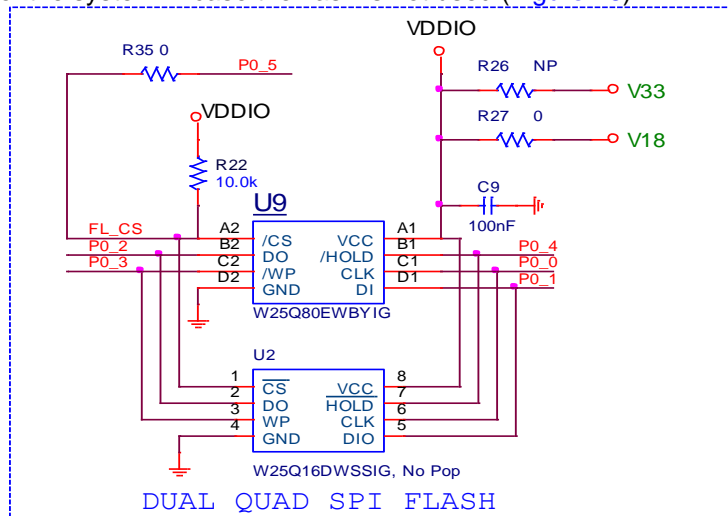
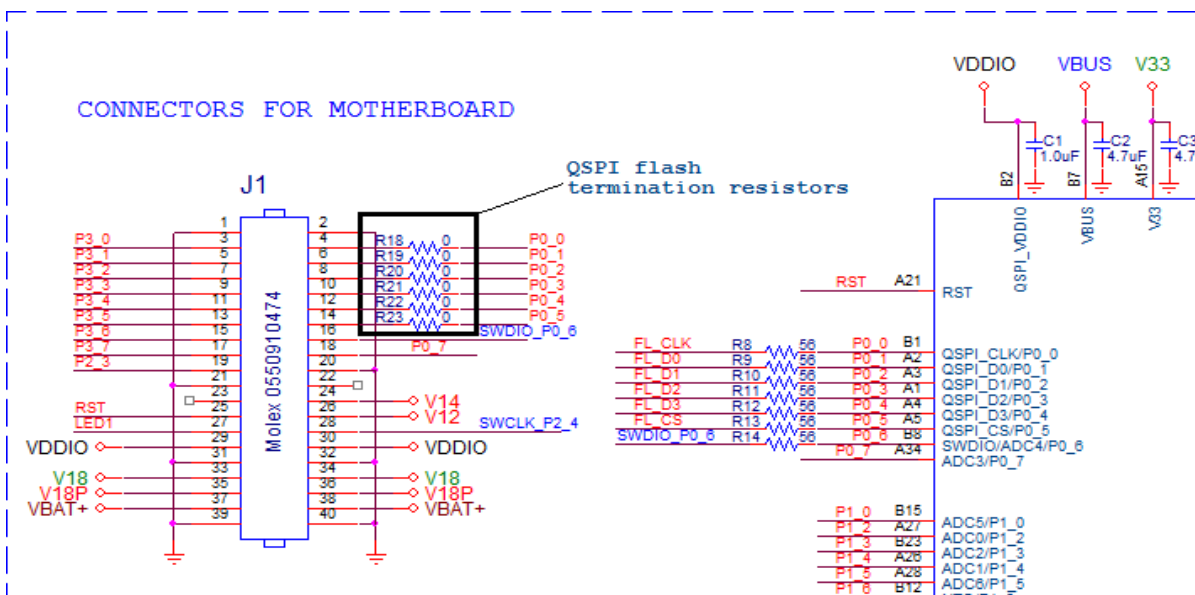

Figure 25: QSPI Data Flash V33 or V18 Selectable Power Supply
Figure 26: QSPI Data Flash 0 Ohms termination resistors
The daughterboard is also equipped with an external QSPI data flash from Winbond. The W25Q80EW flash supports the standard Serial Peripheral Interface (SPI), Dual/Quad I/O SPI as well as 2 clocks instruction cycle Quad Peripheral Interface (QPI), Serial Clock, Chip Select, Serial Data I/O0 (DI), I/O1(D0), I/O2 (/WP) and I/O3(/HOLD). A 0 Ohm resistor is placed in series with QSPI supply to allow measurements with the QSPI switched off. QSPI supply is selectable (V33 or V18) and the same supply voltage is connected to VDDIO on DA1468x/DA1510x (Figure 25). A network of 0 ohms termination resistors is placed in series with the QSPI bus to allow isolation of QSPI data flash from the rest of the system in case the flash is not used (Figure 26).